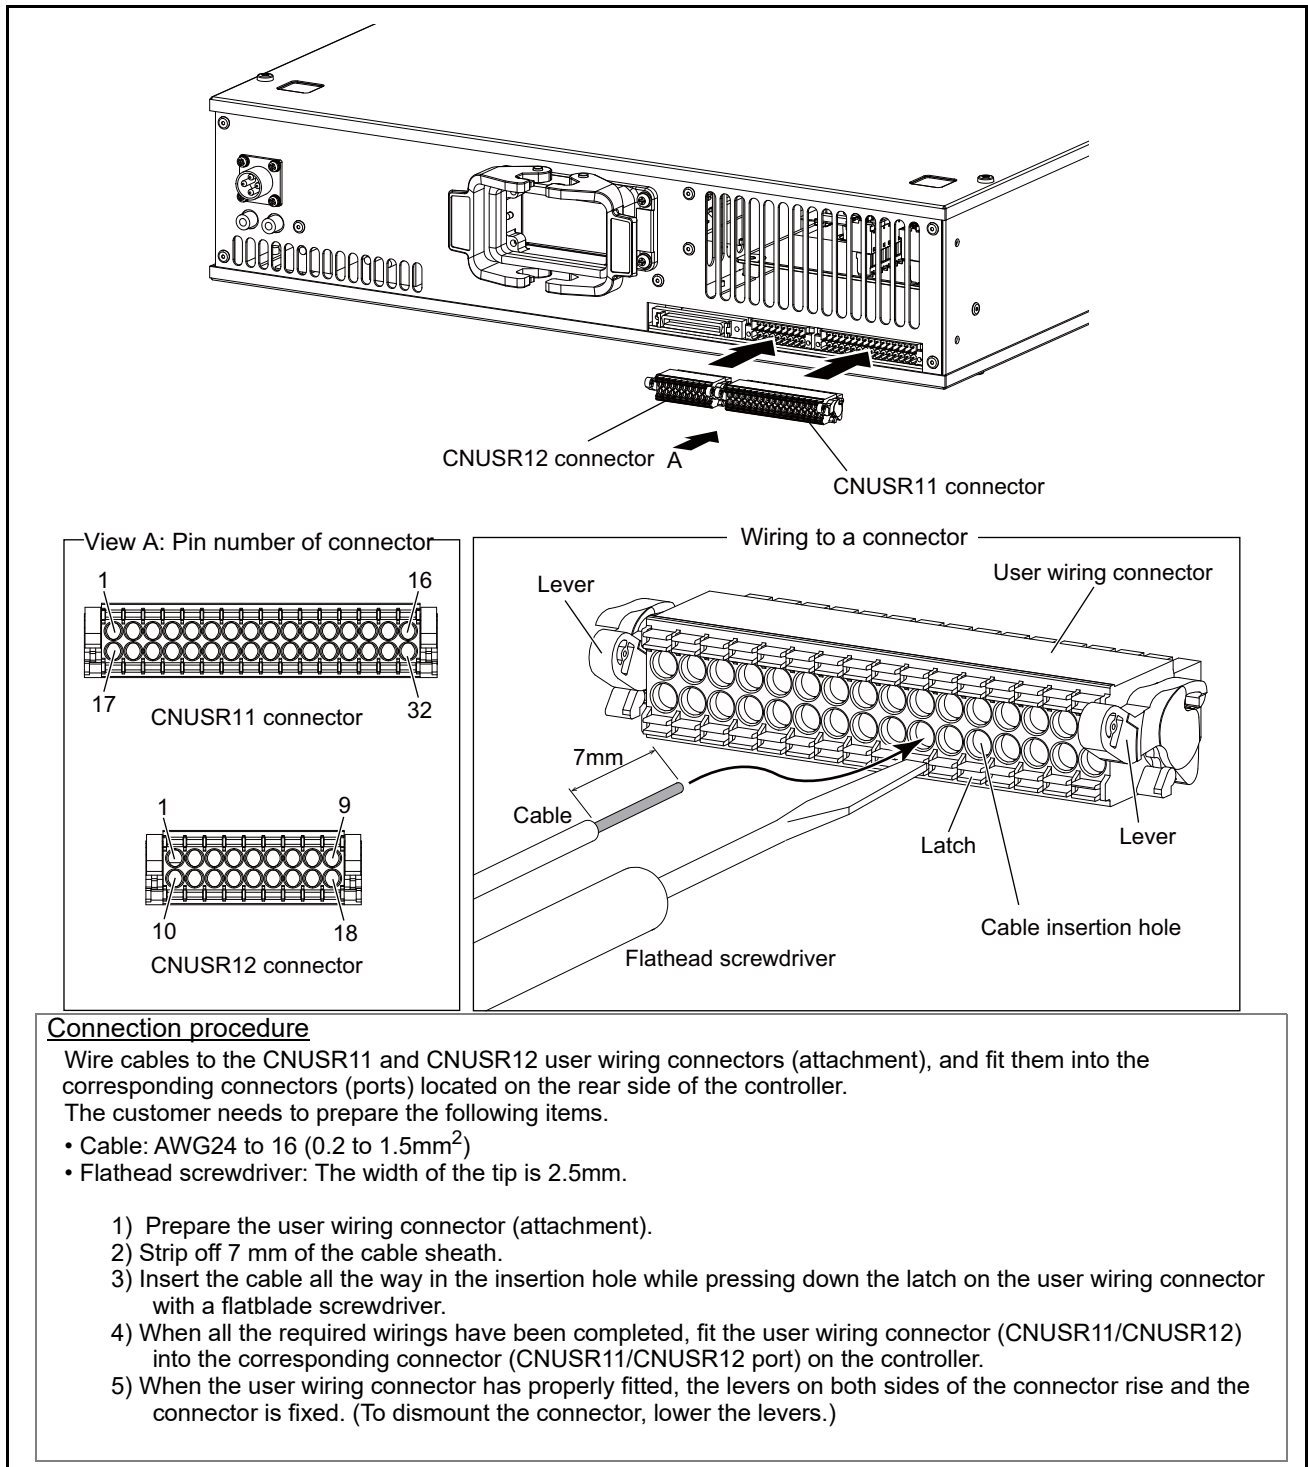

Fig.3-10: Wiring method to the user wiring connector
* Refer to Page 62 "Fig. 3-10: Wiring method to the user wiring connector" for more details about how to wire a connector.